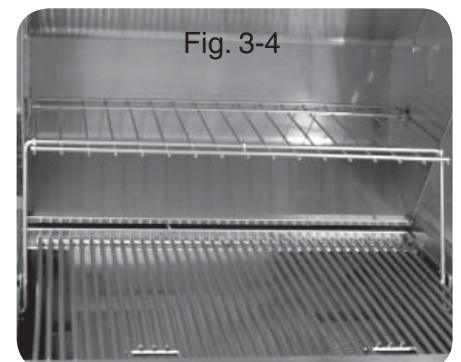

Fig. 3-4
5. Place both cooking grids with cut-outs toward the front, as shown in Fig. 3-4.